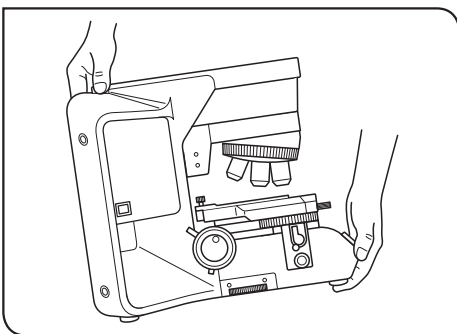

Fig.2
(Fig.2)
3. When moving the microscope, remove the observation and specimen and carefully carry the microscope by holding the grasping part on the rear of the arm and the front part of the base as shown in Fig.2.